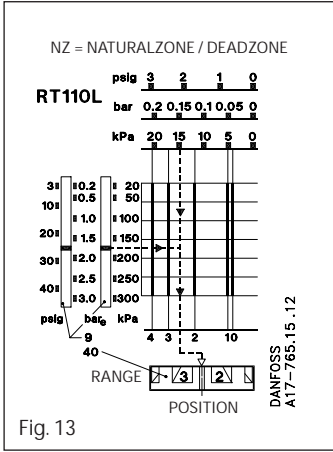

Fig. 13
The interval in the controlled variable in which the correcting element does not respond (see Fig. 13)
The range is set using the setting knob (5) in Fig. 8 while reading the range scale (9). The pressure set is the break pressure for contacts 1-4 (see Fig. 13).
The required neutral zone can be found in the diagram for the unit concerned. The position at which the neutral zone disc (40) must be set can be read from the lower scale in the diagram. The function can be seen in Fig. 13.